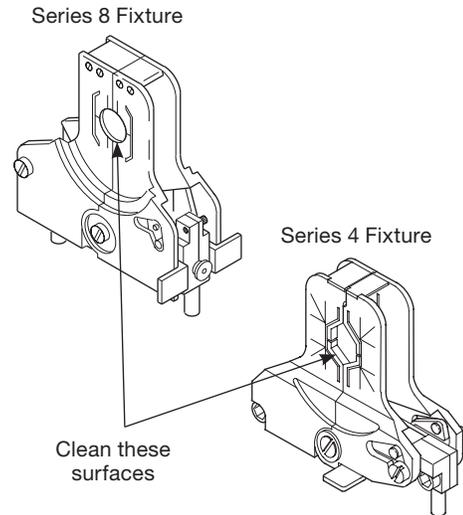

Figure 24 *Cleaning the Micro Weld Head Fixtures*
1. Clean the surfaces of the fixture that contact the work pieces. Use the wire brush included in the micro weld head tool package. See Figure 24.